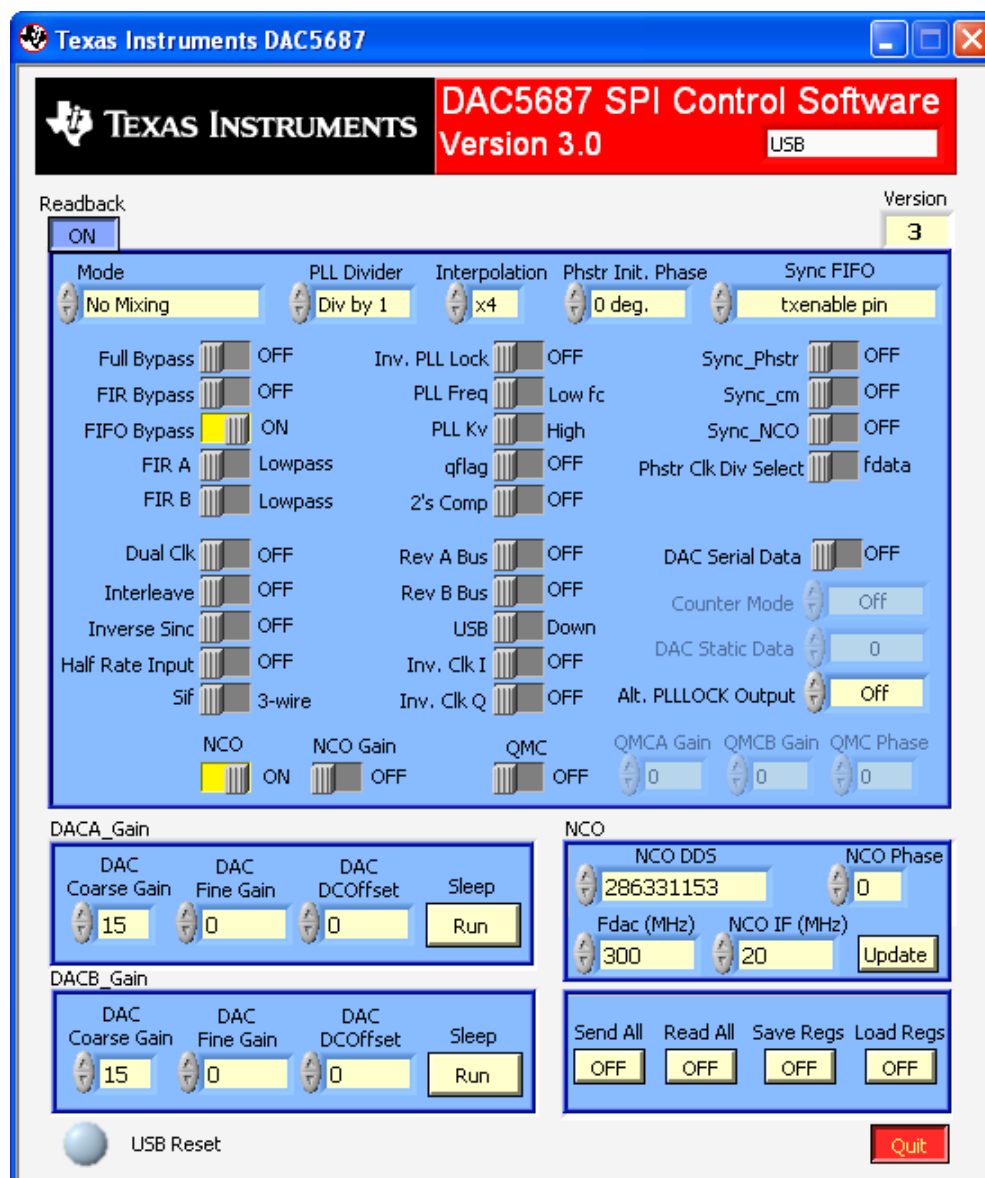

Figure 4. DAC5687 Setup for X4 Mode and NCO Tone at $F_{DAC}/15$
7. Change the interpolation to X4, and the mode to *No Mixing*, the NCO DDC to 286331153 ($F_{NCO}/15$) and reduce the CLK2 frequency to < 320 MSPS. The GUI should look as shown in Figure 4. The NCO is now running at the DAC update rate (= CLK2). For CLK2 = 300 MSPS, the result is an output tone at 20 MHz.